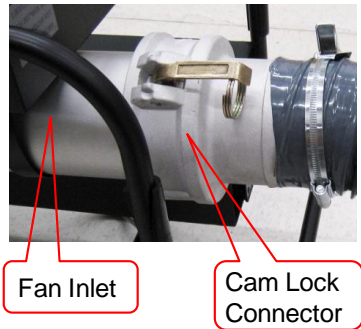

Figure 8. Negative Pressure, High-Flow Setup
- c. For negative pressure, high-flow testing, remove the low flow nozzle if it is installed. Then, connect the grey cast aluminum cam lock connector to the inlet side of the blower per Figure 8. Close both cam lock arms at the same time to ensure proper fit.